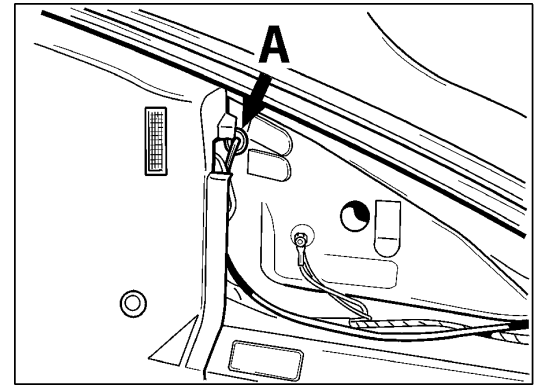

Figure 3
- Bore a 20 mm hole at both positions marked "A" in Figures 3 and 4.